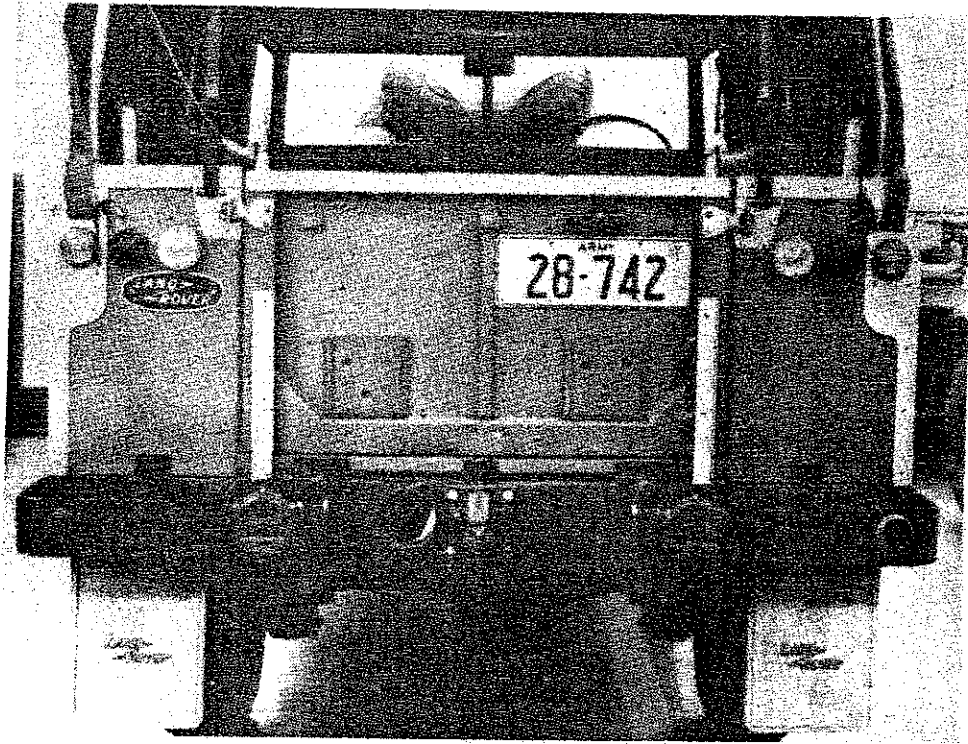

FIG 3 - MODIFIED VEHICLE
- e. Reroute the registration plate light wiring loom as shown in Fig 3.
- f. Connect the wiring loom to the light assembly and using item 4 from Table 1 and the spacers manufactured vide sub-paragraph 9d., fit as shown in Fig 3.
- g. Secure the wiring loom using items 1 and 5 from Table 1 as shown in Fig 3.
- h. Plug old rivet holes left vacant in the tailgate using item 2 from Table 1.